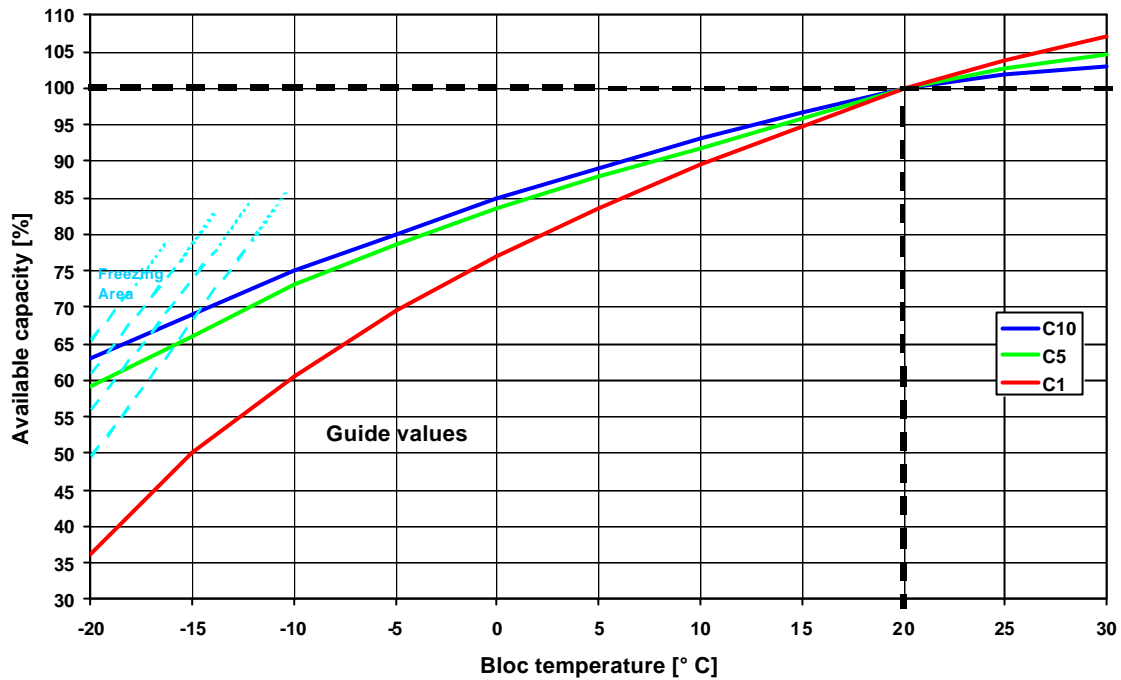

Fig. 19: A 400, A 500, SOLAR, SOLAR BLOCK:
- The battery temperature affects the available capacity, as shown in fig. 19 and 20.